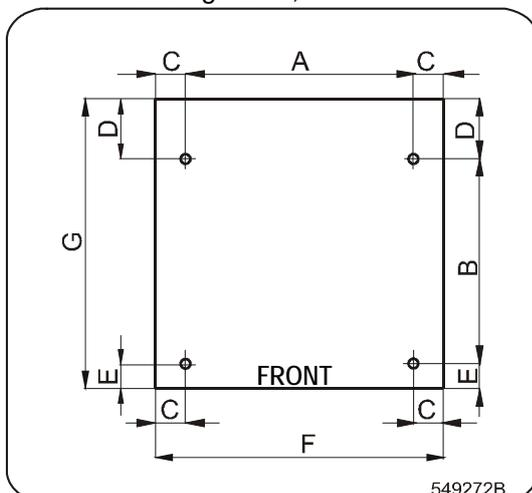

Figure 10 – Rigid-mount machines
- “○” – drilling points for anchoring bolts, or chemical anchor bolts, see figure 10, 11.
- The existing concrete floor must be at least 120mm / 4.72" thick. Dimensions for anchoring – see figures 10, 11 and table 22.